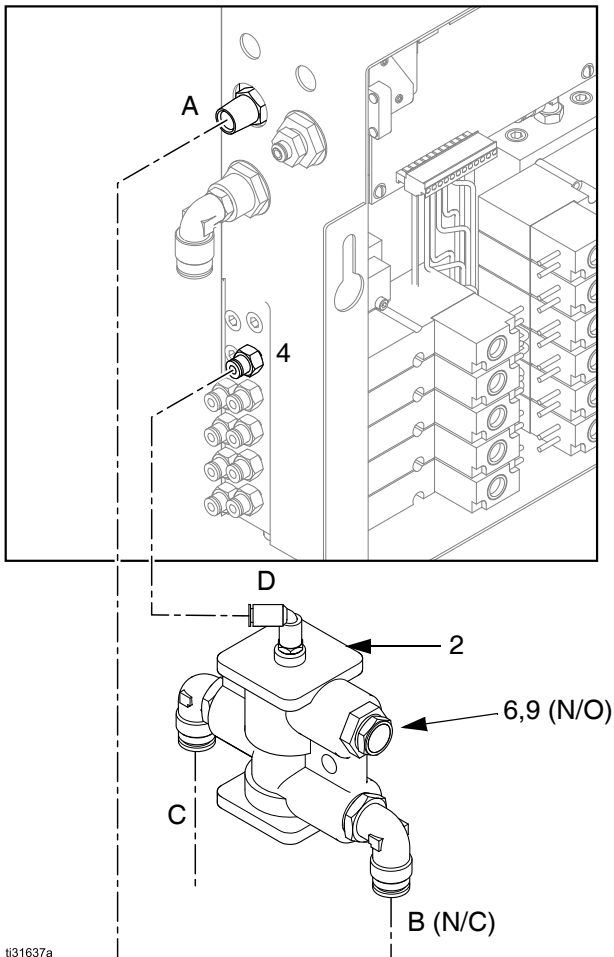

FIG. 10: Air Line Connections, ProMix II
2. Install bushing (6) and muffler (9) in the upper port (N/O-Normally Open). (See FIG. 10 for steps 2-5.)
3. Connect atomizing air line from AFS (A) to lower port (B;N/C-Normally Closed).
4. Connect an air line from solenoid fitting (4) to pilot port (D).
5. Connect an air line from the outlet port (C) to the gun air inlet.